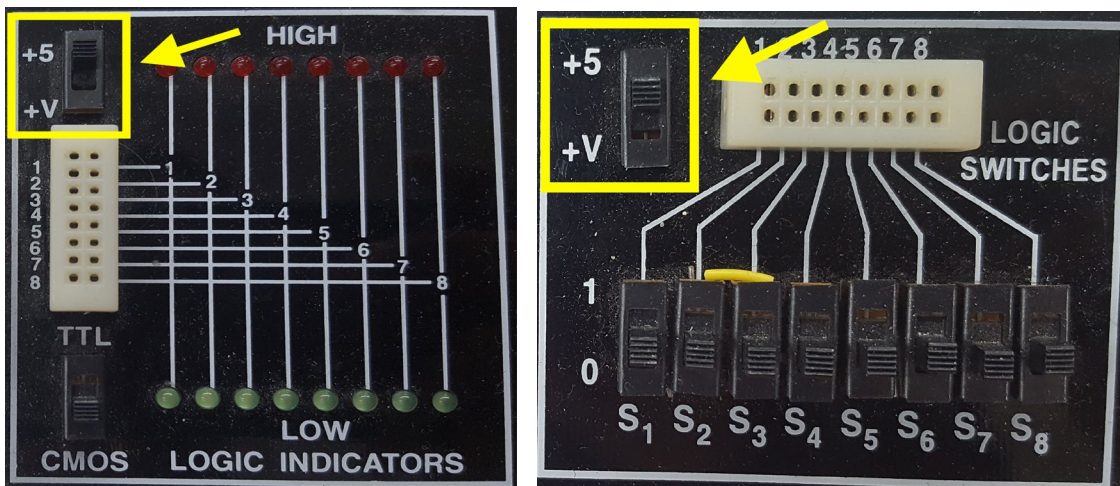

Figure 3: Logic Indicators and Switches.
- *Global Specialties Breadboard*: Use the ohmmeter mode of the multimeter to confirm that horizontal rows of five holes are connected. Vertical columns of five holes are connected and intended for power and ground, but note that the top and bottom half of each column is not connected on this breadboard, making it easy to accidentally not power your circuits. Refer to this video for a demonstration. You can apply inputs using the logic switches and check outputs using the logic indicators shown in Figure 3. Be sure to configure the switches and indicators for 5 volt CMOS levels by making sure the voltage switches are both in the +5 volt position (not variable voltage) and the logic family switch is in the CMOS position. Refer to this video for a demonstration.